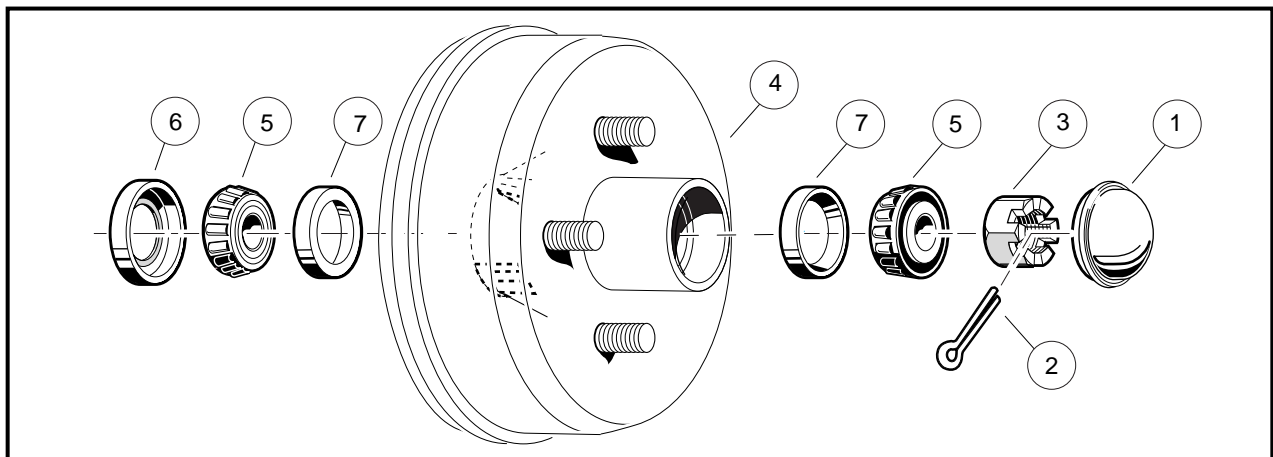

Figure 7-31 Front Wheel Bearings and Hub
2. Using your hands, attempt to rock the wheel and hub assembly back and forth on the spindle. If there is any observable movement of the wheel and hub on the spindle, remove dust cap (1) and cotter pin (2) and then tighten the spindle nut (3) until the bearing (5) fully seats in the bearing cup (7).
4. Install a new cotter pin (2). If movement continues, replace the wheel bearings (5) as required (**Figure 7-31, Page 7-19**).